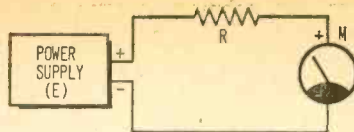

Fig. 3. When the voltage scales of the multimeter are calibrated, current ranges can be calibrated with a power source, precision resistors, and Ohm's Law.
**Current Calibration.** Once you know the accuracy of the voltage scales on your VOM, you can check the current ranges by using Ohm's Law and a handful of precision resistors. Fig. 3 shows the test setup for this procedure. The resistors should be of at least 1-percent accuracy; inexpensive deposited-film units are suitable. Values may range from about 2000 through 200,000-ohms, in about 5-to-1 ratios.